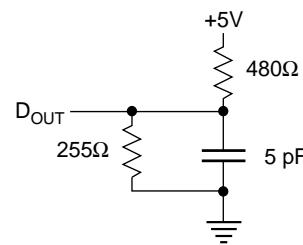

Figure 2. Output Load Equivalent
1. The parameter is tested with $CL = 5 \text{ pF}$ as shown in Figure 2. Transition is measured $\pm 200 \text{ mV}$ from steady state voltage.